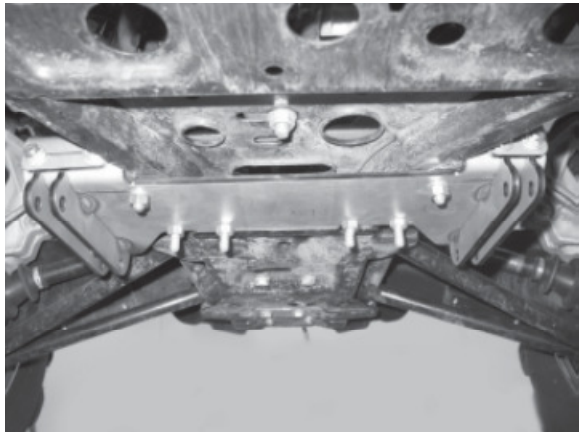

Figure 2 Install U-Bolts on Plow Mount
5. Slide two 5/16" dia x 1-1/4" wide square U-bolts over the top of the square tubing of the bike frame and through the plow mount plate. Terminate the ends of the U-bolts with a 5/16" dia nylock nut as shown in figure 2. Tighten the nuts to a recommended torque of 14 ft-lb.
1. Slide the plow into position with the tubes under the ATV. Lift the end of the tube assembly into position so the holes in the tube wings line up with the 3/8" holes in the frame brackets (Figure 2).